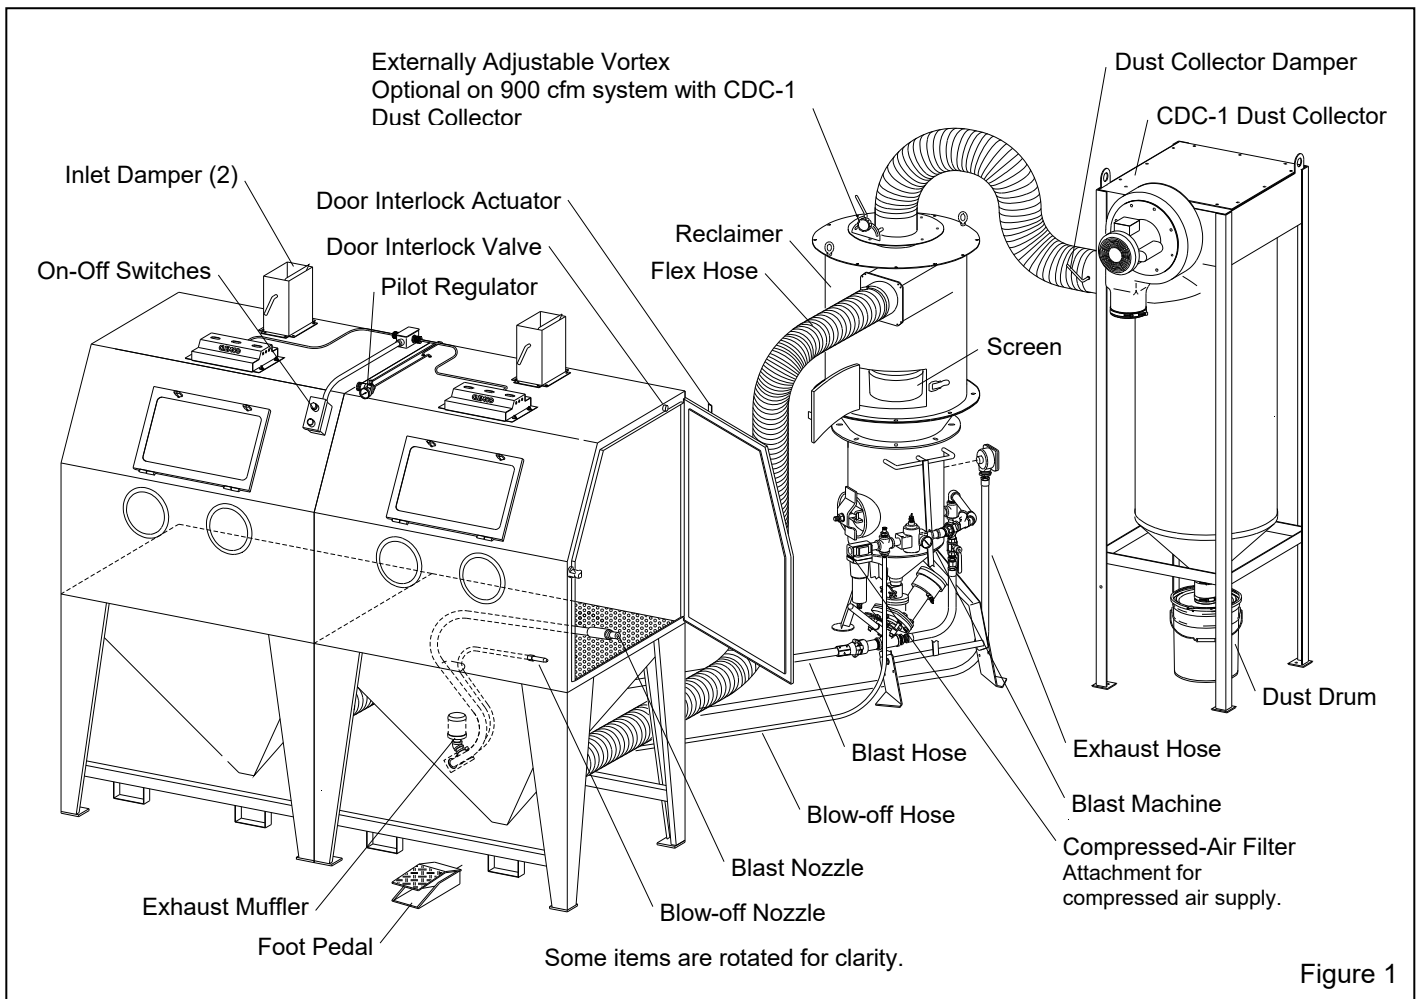
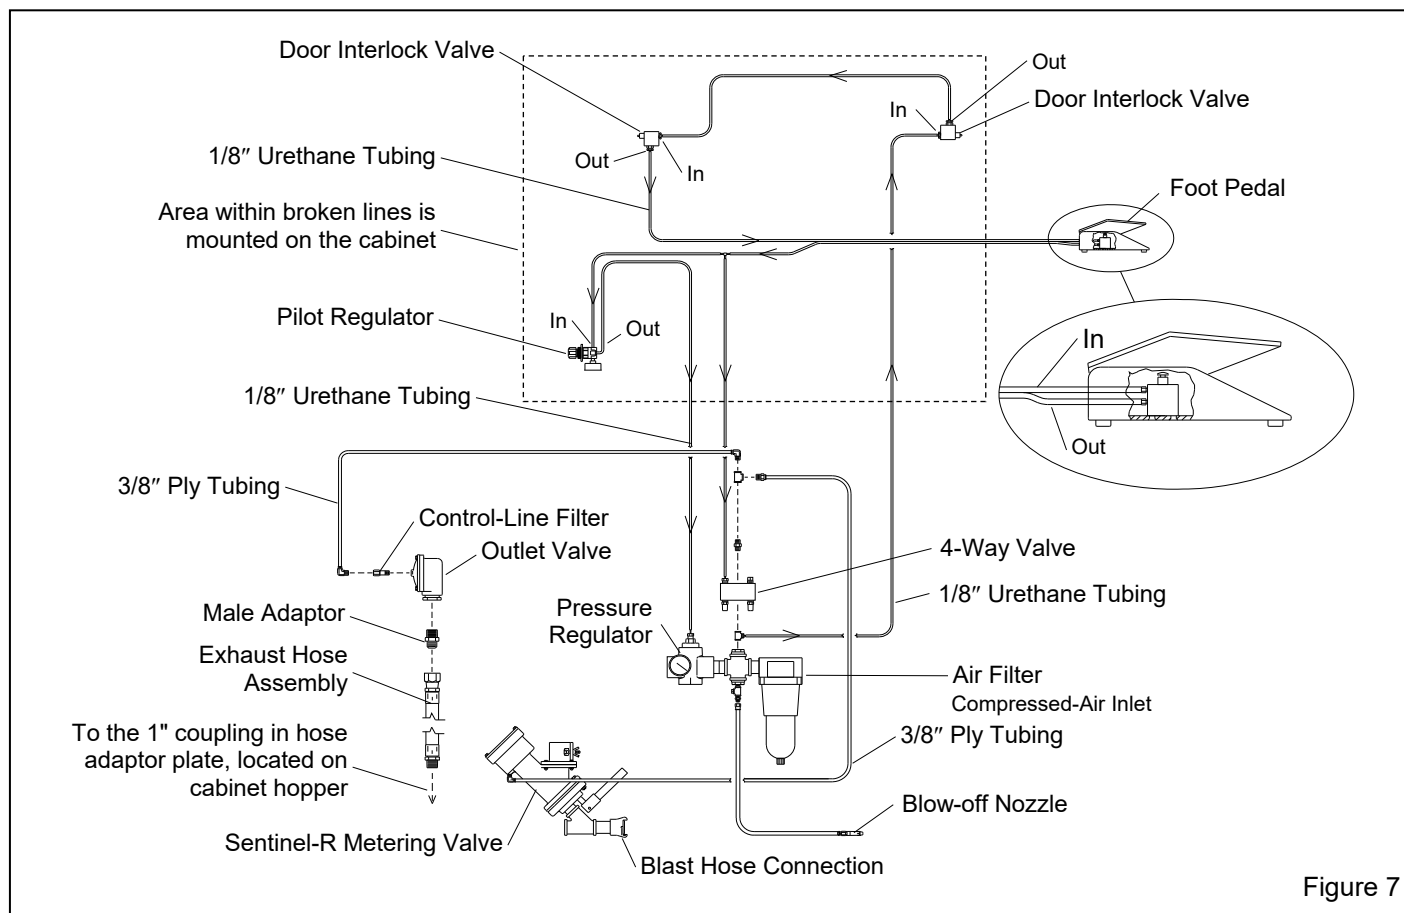

Figure 1
Figure 7
1.4.3 Refer to Figure 1 for arrangement of components with a CDC-1 dust collector. Figure 2 shows the arrangement with an RPC-2 (900 cfm) reverse-pulse dust collector with dust drawer. The optional RPH-2 (900 cfm) and RPH-3 (1200 cfm) are set up the same way as the RPC-2, but includes a hopper for additional dust storage, and empties into a drum. The overall height of an RPH is approximately 10.5 ft and 12 ft when the top access door is open. To upgrade, an RPC-2 or RPH-2 collector may be added at any time. An RPH-3 is standard with cabinets requiring 1200 cfm dust collector.
1.7.1 CDC-1 Dust Collectors: Shown in Figure 1, the collector is available in 900 cfm models. The single filter cartridge is cleaned by using a manually controlled pulse of compressed air. Dust collects in a 5-gallon dust drum, which must be frequently emptied. CDC-1 dust collectors are standard with BNP cabinets with 900 cfm reclaimers unless an optional RPC-2 or RPH-2 Dust Collector is ordered at time of purchase. Refer to manual number 28225.
2.1.1 Refer to Figure 1 (and Figure 2 for optional reverse-pulse collector) for the general arrangement and Figure 7 for the control line schematic. Select a location where compressed air and electrical service are available. The cabinet location must comply with OSHA and local safety codes. Allow for full access to all doors and service areas and for efficient handling of large parts. Provide enough clearance in front of the dust collector to remove the dust drawer without tipping. Ideally, locate the blast machine directly behind the cabinet with the blast hose connection toward the cabinet. The reclaimer may be rotated on the blast machine to allow for as few bends as possible to prevent wear. Determine the best location for all components and position them before making compressed-air connections, electrical connections, and attaching flex hose.